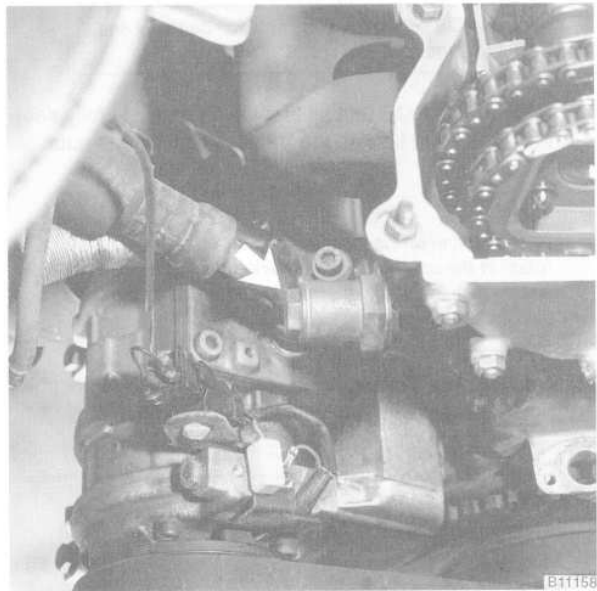

Fig. 40. Primary timing chain tensioner (arrow).
2. Remove the primary timing chain tensioner from the side of the cylinder head. See Fig. 40. Install BMW special tool no. 11 3 390 into the primary timing chain tensioner sleeve. Thread the tool in finger tight until the slack is removed from the chain.